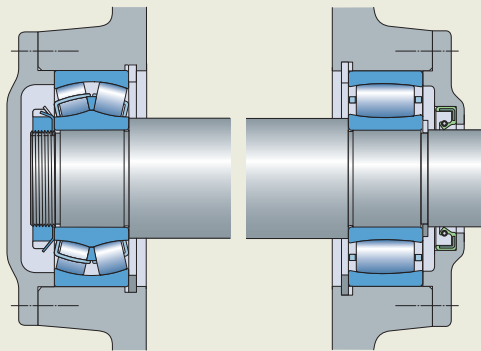

Fig. 10
- deep groove ball bearing / deep groove ball bearing (fig. 10)